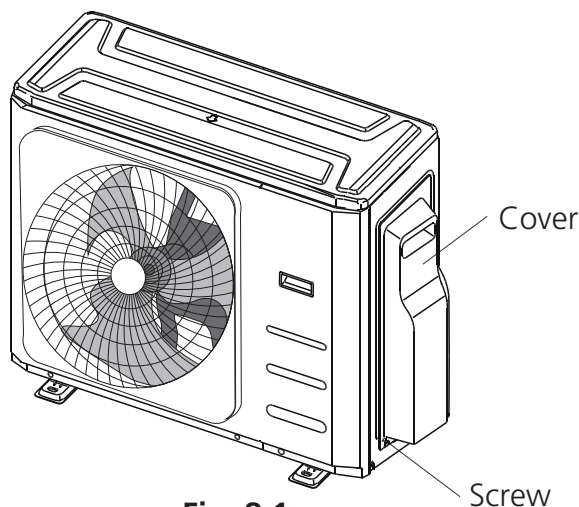

Fig. 8.1
2. Remove the electric cover of the outdoor unit. If there is no cover on the outdoor unit, disassemble the bolts from the maintenance board and remove the protection board. (See Fig. 8.1)